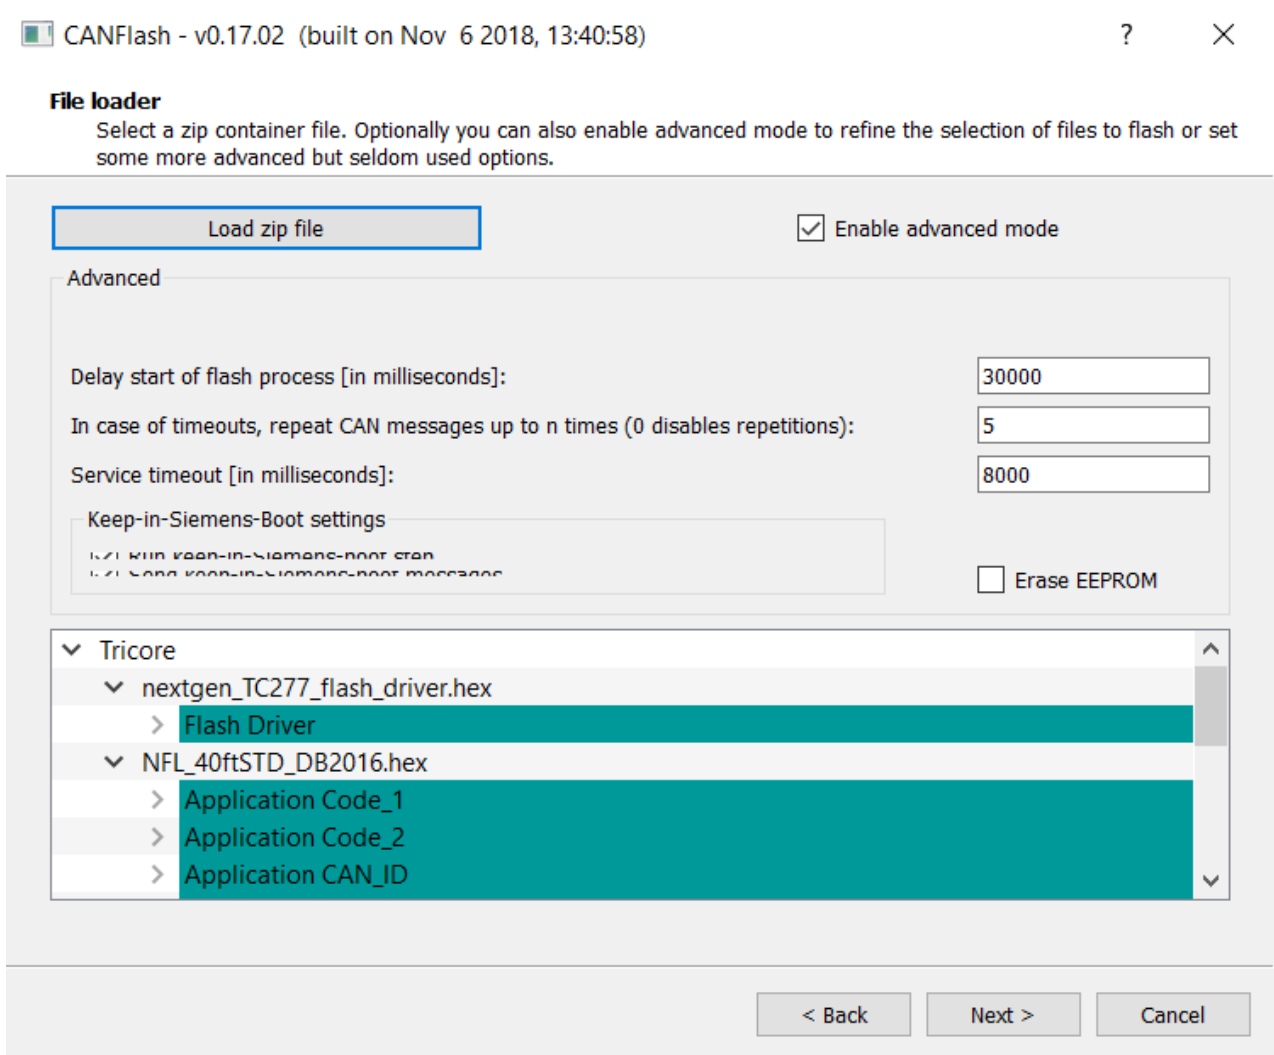

Figure 9: Advanced settings for CANFlash
28. Click the **Enable advanced mode** button. Change the **Delay start of flash process** box to 30000. Change the **repeat CAN messages** box to 5 (see figure 9). Click **Next** when complete.